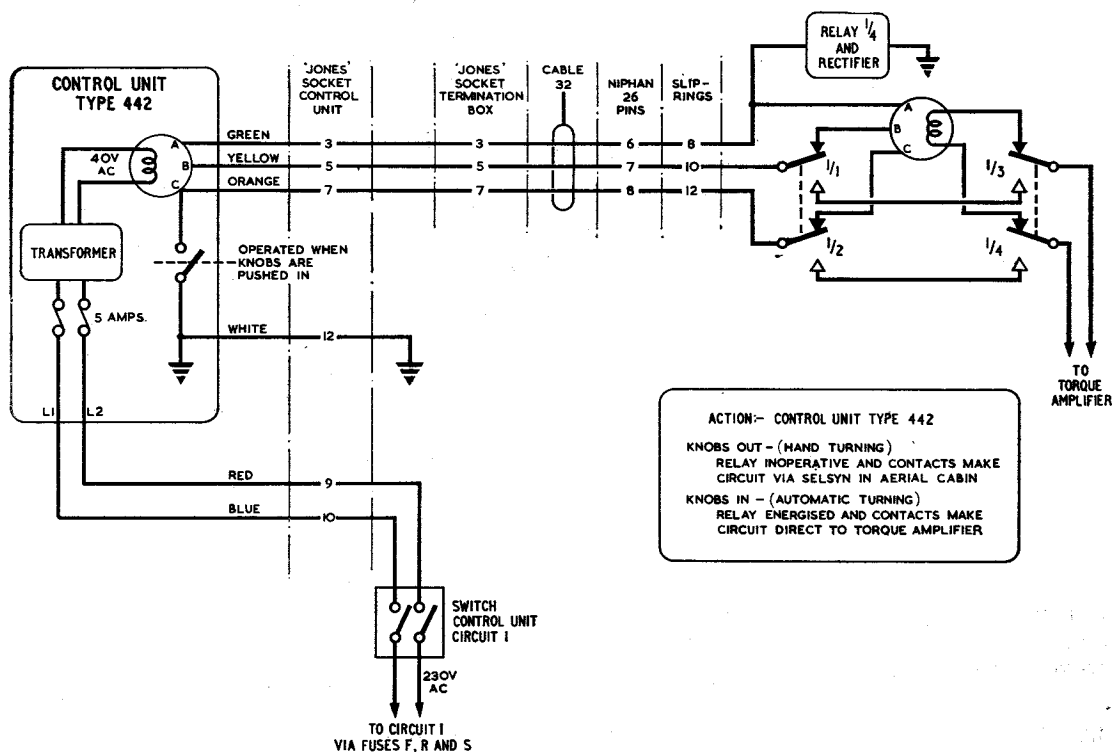

Fig. 27. Operation of relay unit Type 171
76. The change from AUTOMATIC to HAND turning is effected by withdrawing the two knobs on the front panel of control unit Type 442 at zero speed. As shown in fig. 27 a micro switch then releases a relay in relay unit Type 171 and the two selsyns are connected up.